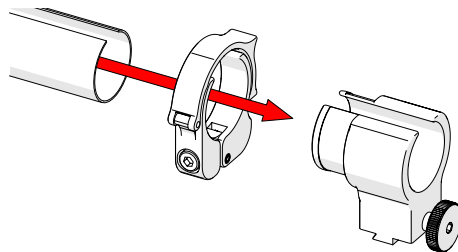

Fig. 88 - Slide tube around mount
2. Slide the clamp around the sleeving first and then slide the sleeving around the outside of the cable management dovetail mount (*Fig. 88*). Align the zipper opening and the cable management dovetail mount opening.